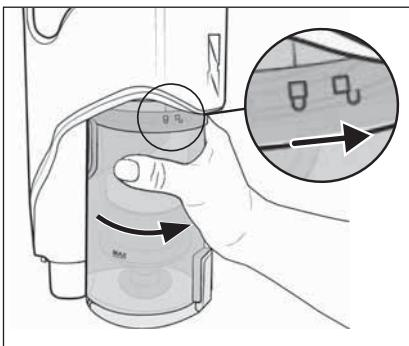

Fig. 28
- 8) Put the dirt container ⑦ back into the appliance and turn it in the direction of the symbol ☐ (close) until it is firmly seated in the appliance (see Fig. 28).